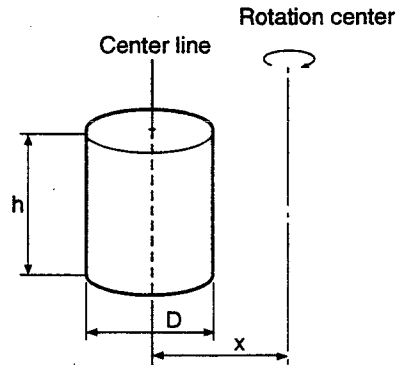

Figure 6-4
When the center of the cylinder is offset by the distance “x” from the rotation center as shown in Figure 6-4, the equation for the moment of inertia (J) is given as follows.